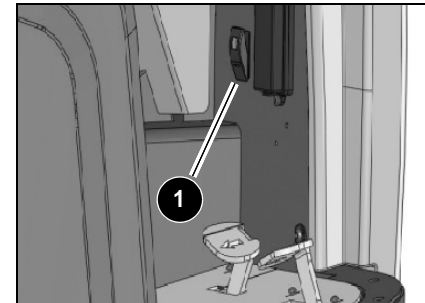

Fig.21
Switch (Fig. 21/1) to its top position:
- Switch (Fig. 21/1) to its bottom position: